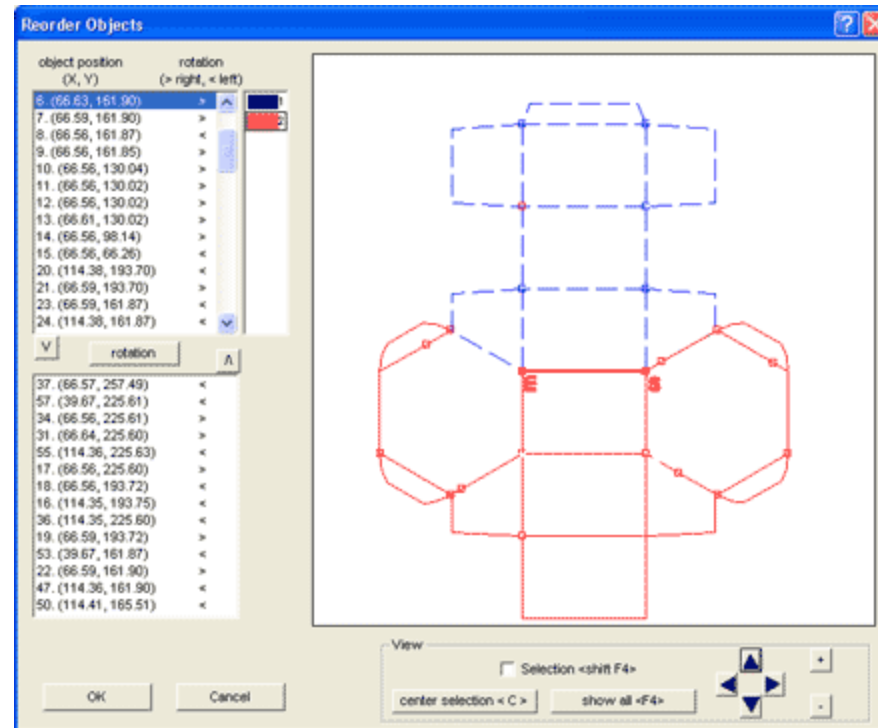

Fig. 12: OptiSCOUT - Reorder Objects
Figure 12 shows the special case, where non closed object contours should be given out. For output time it is critical in which order objects are handled. OptiSCOUT has the possibility to determine start (S) and end (E) of a vector and order of processing.